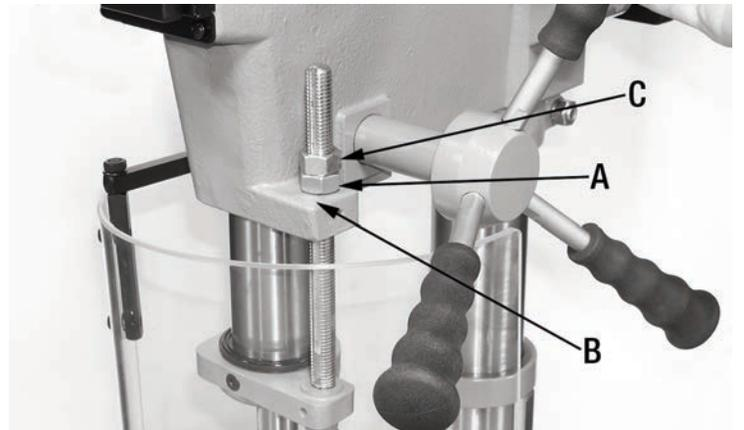

FIGURE 10
The depth stop mechanism Fig.10 allows repetitive drilling to an equal depth, to adjust the depth stop mechanism:
2. At the same time, position the bottom hex. nut (A) Fig.10 against the head casting (B).
4. If properly set, tighten hex. nut (C) against hex. nut (A) to secure the adjustment. Depth stop mechanism is now set and you can now do repetitive drilling at equal depth.